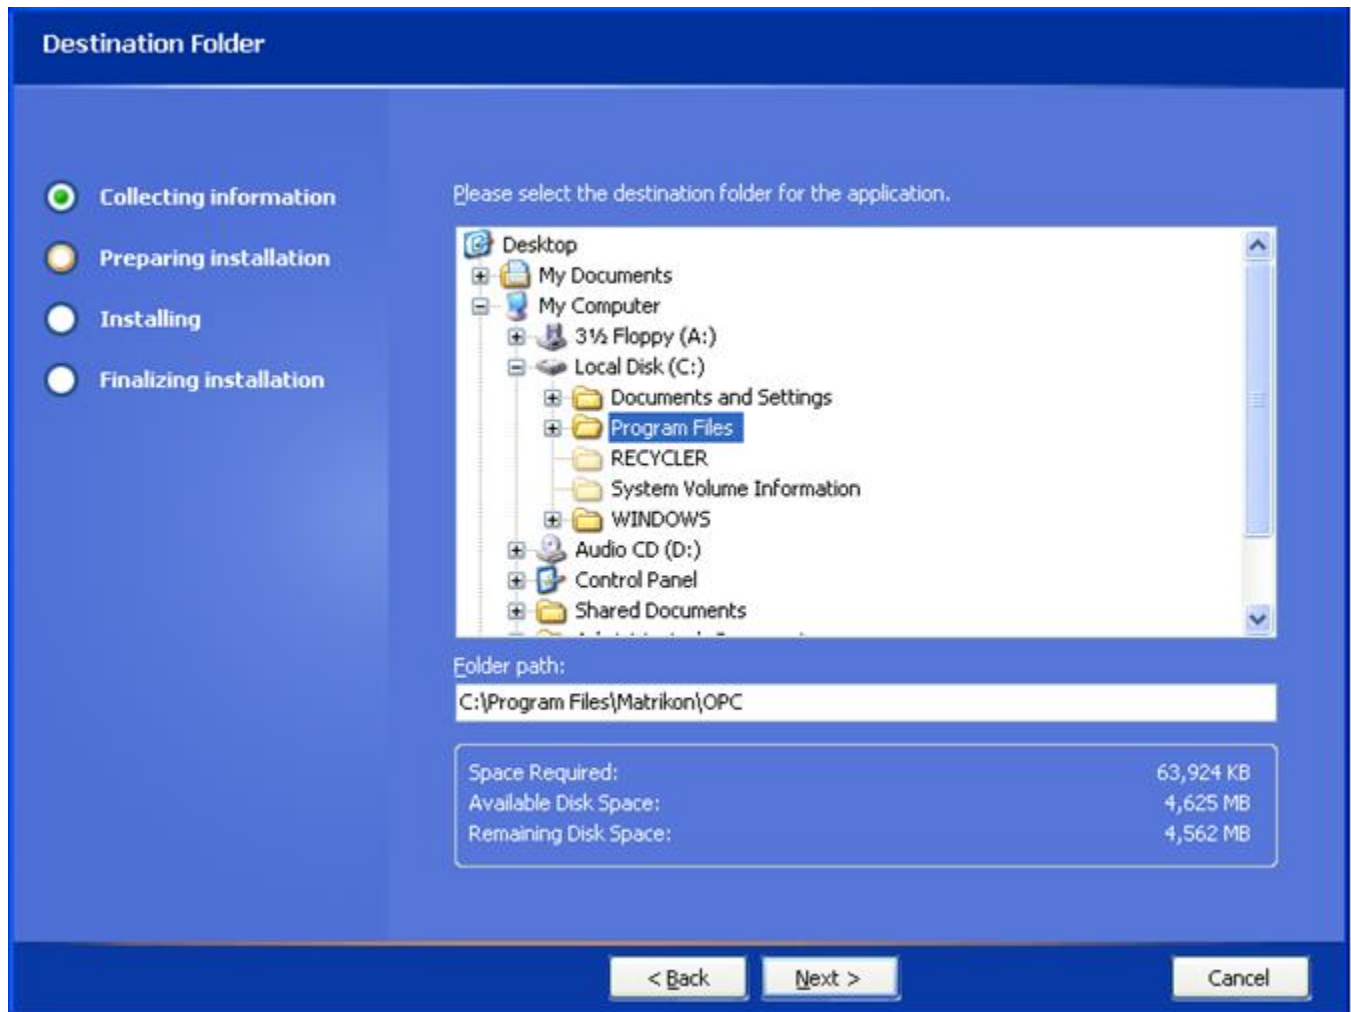
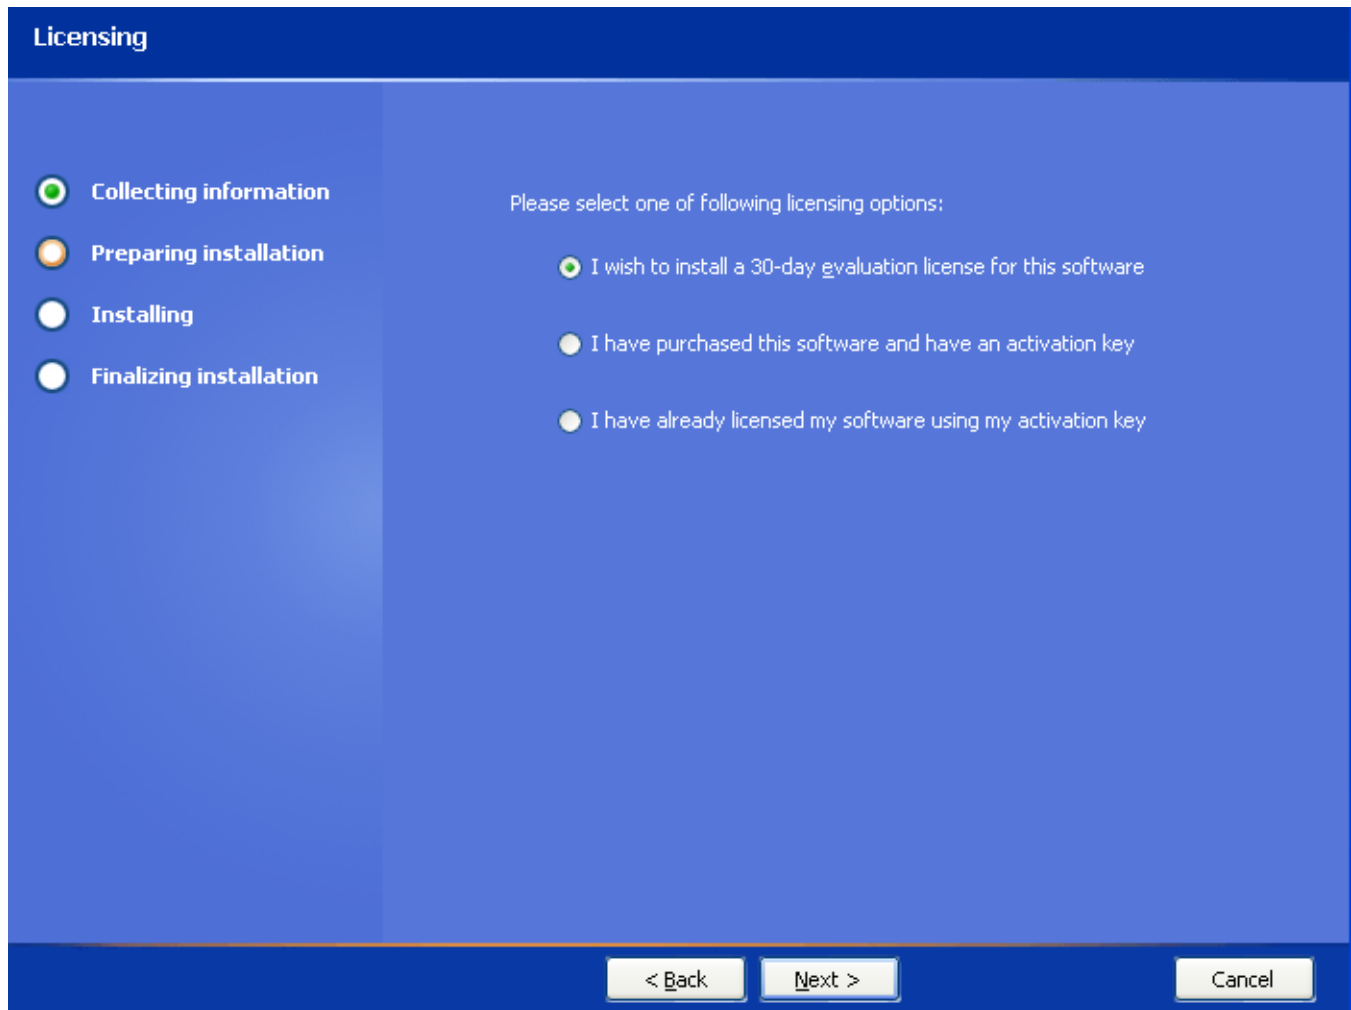

Figure 62 - Destination Folder Screen
Figure 65 - Licensing Screen
11. If you have selected Express Setup the default options will be used. Go to step 18 (Figure 65); otherwise the **Destination Folder** screen (Figure 62) appears.
17. Click on the **Next** button to accept the default password. The **Licensing** screen (Figure 65) appears.